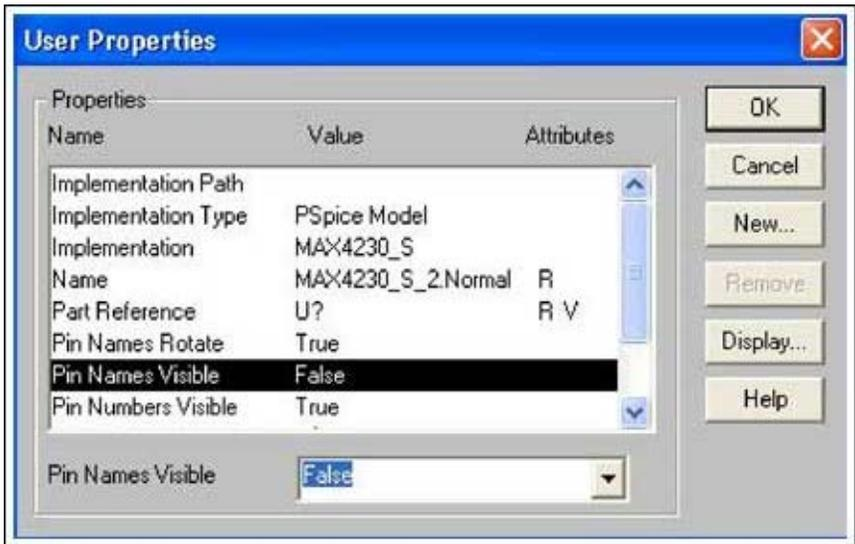

Figure 8. In the User Properties screen the model's pin names can be made invisible.
- To make the pin names invisible, first click on that part of the symbol, then select "edit part." After the part is displayed, go to "Option" and then "User Properties." In the "Pin Names Visible" box select "False." See Figure 8.